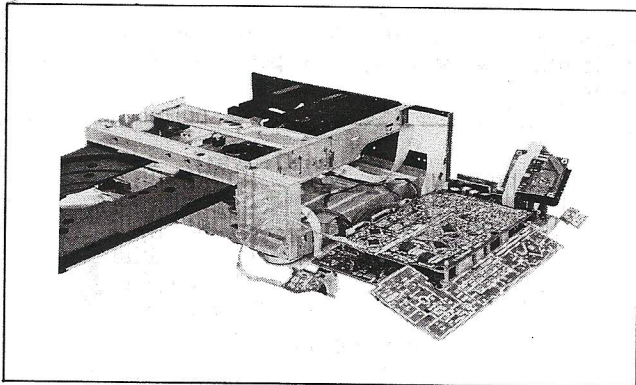
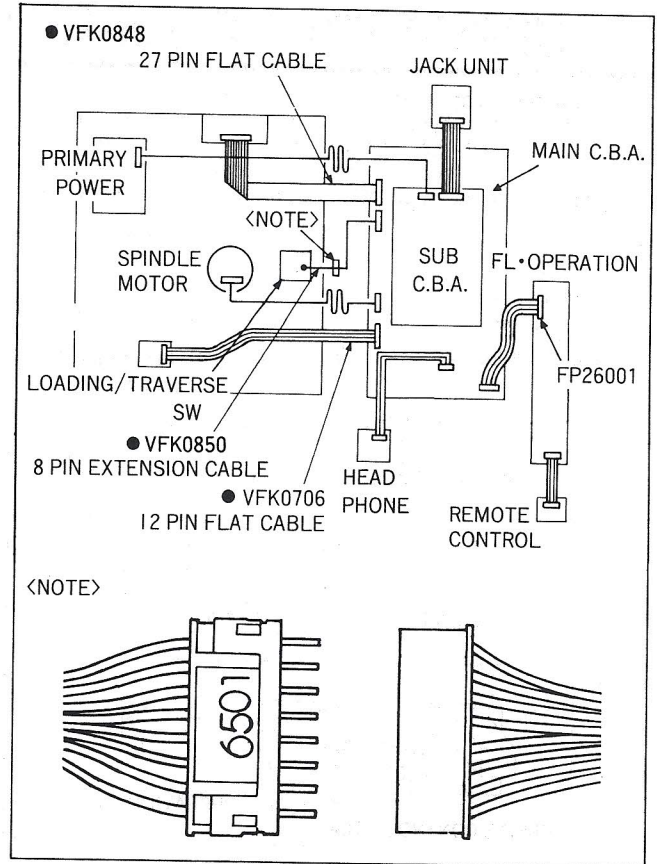

Fig. 4-4 Service Position 1
Fig. 4-5 Service Position 2
5. Remove 4 screws and disconnect the flat cable FP22001, FP22003 and connector P22002, P21002. Then carefully remove the Main & Sub C.B.A. from the right side of the unit as shown in Fig. 4-4.
7. Connect the Extension Cables, FP26001 on FL. Operation C.B.A. as shown in Fig. 4-4 and 5.
Connect the Extension Cables VFK0706 so that the character side of the cable faces upward. Then connect the Extension Cable VFK0848 so that the character side faces upward on the Interface C.B.A. side and the character side faces downward on the Main C.B.A. side as shown in Fig. 4-4. Connect the VFK0850 is shown in Fig. 4-5.